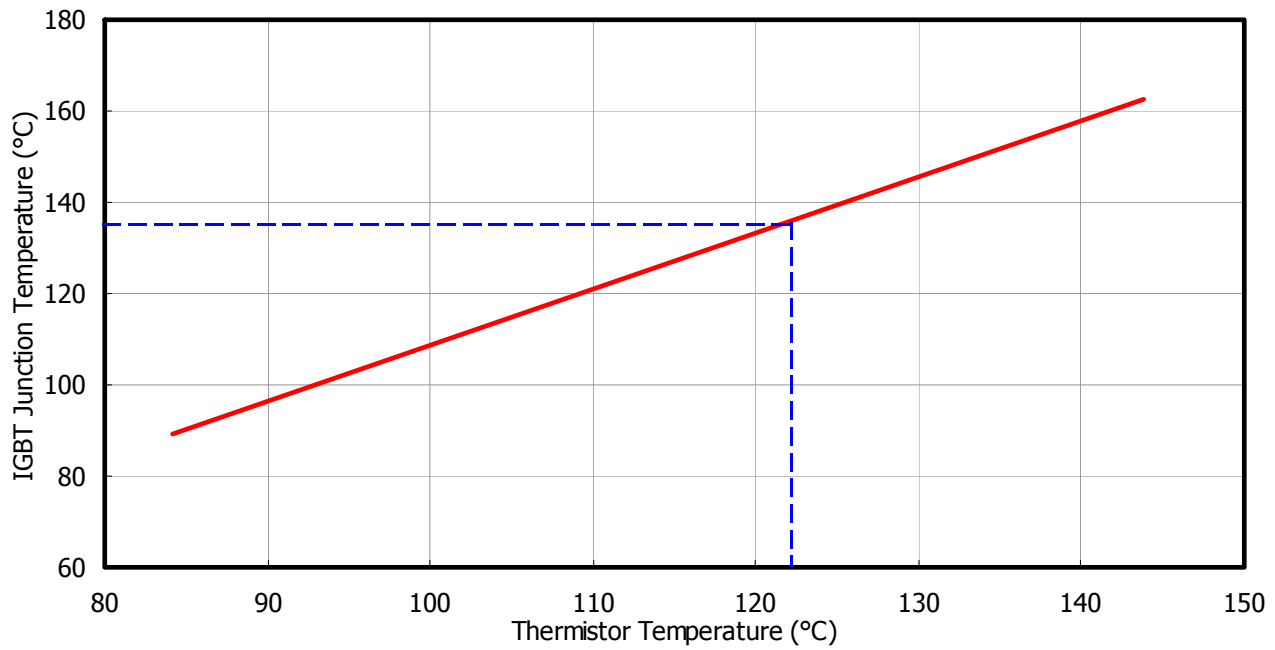

Figure 9. Estimated maximum IGBT junction temperature with thermistor temperature
3. Value of the boot-strap capacitors depends upon the switching frequency. Their selection should be made based on IR design tip DN 98-2a, application note AN-1044 or Figure 9.